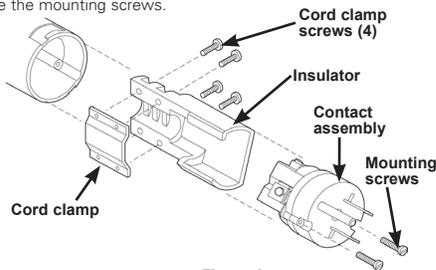

Figure 1
- Loosen two (2) mounting screws (#4-40 x 5/8" long) in plug face, but do not remove all the way to maintain captive feature. Remove contact assembly, insulator and cord strain relief clamp. Note orientation of insulator before complete removal (see Figure 1). Be careful not to lose the mounting screws.